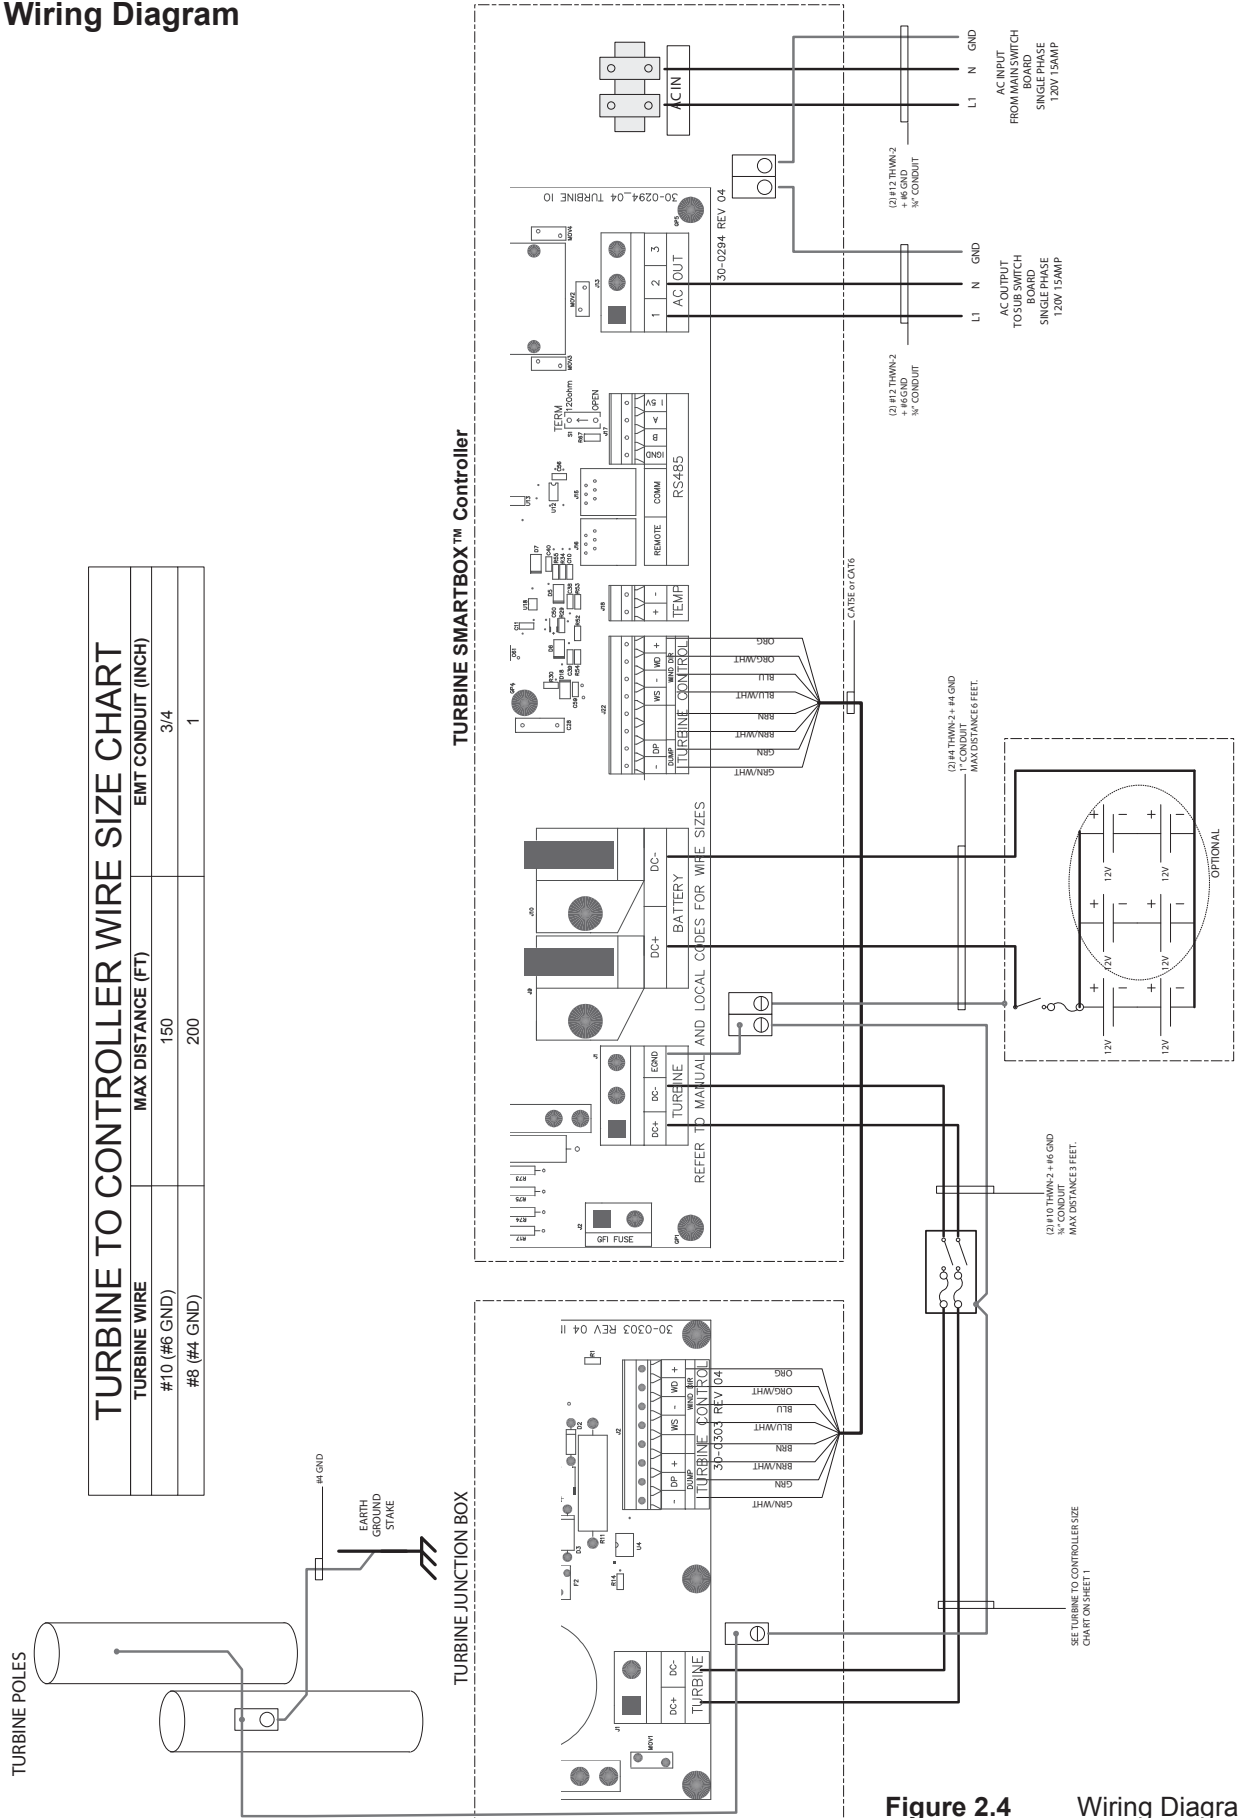

Figure 2.4 Wiring Diagram
5. Run wiring between turbine and **SMARTBOX™** Controller. Reference the turbine wiring diagram on page 12; Figure 2.4.